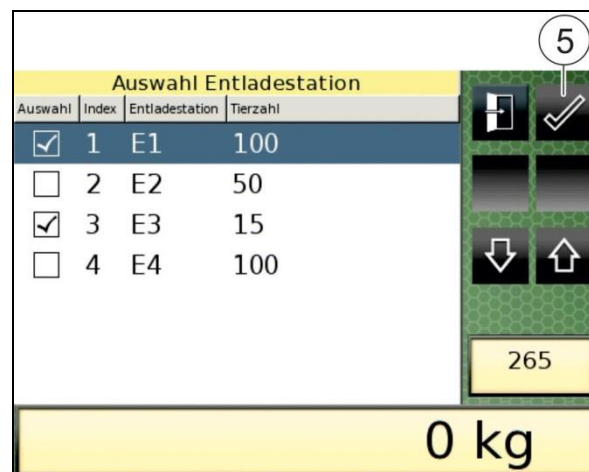

Fig. 201
- 4.1 Press the "Change entry data" key (4).
- The "Discharge station options" display (Fig. 201) appears.